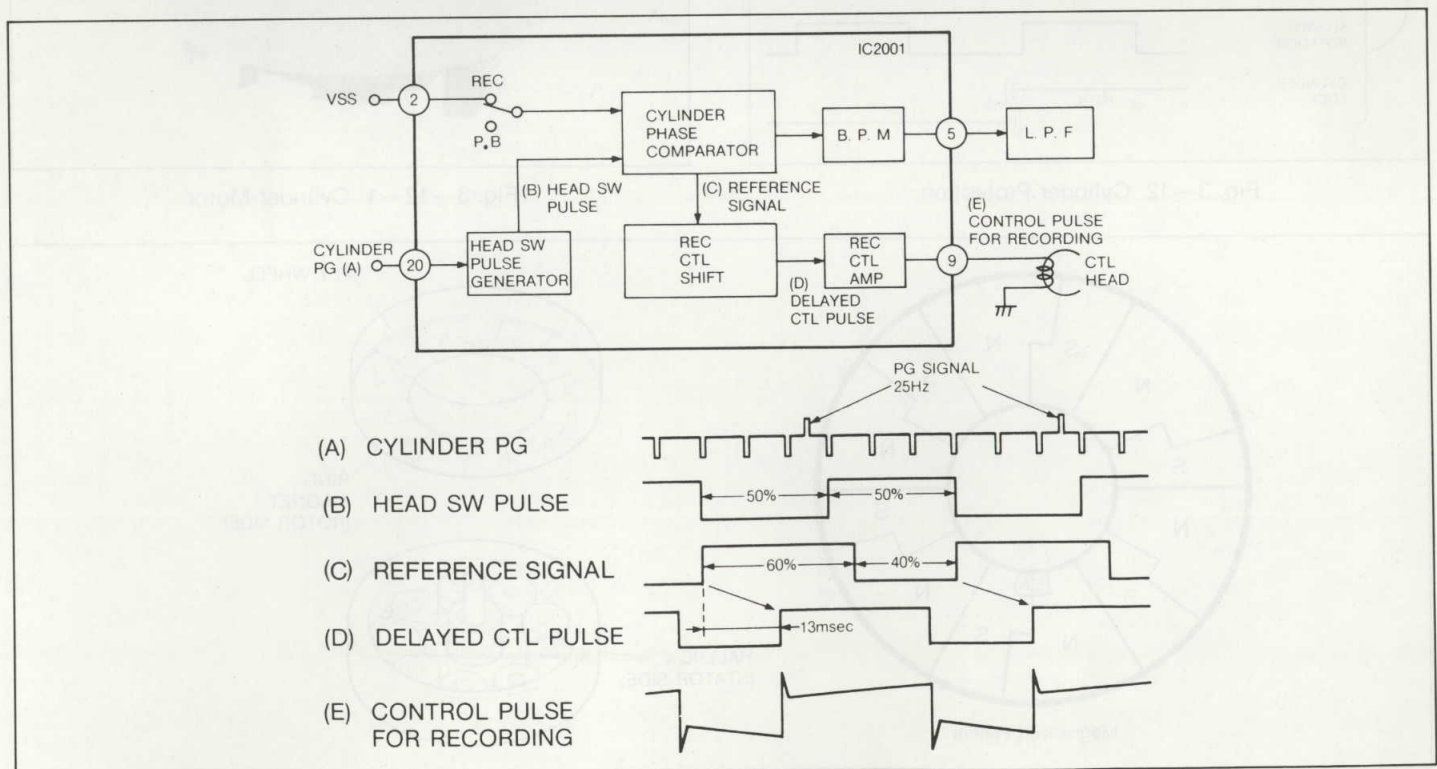

Fig. 3—11 Producing the Control Pulse
The cylinder motor drive circuit produces cylinder PG/FG signal at pin 19 of IC2502 and applies it to pin 20 of IC2001. From this signal, the head switching pulse is produced by being extracted only the cylinder PG (25Hz) signal, and more detailed explanation will be given later. (Refer to the waveform (A) and (B) in Fig. 3—11) Then, this head switching pulse is applied to cylinder phase comparator, and the reference signal with 60% – 40% duty cycle is produced. (Refer to the waveform (C) in Fig. 3—11). This signal is next delayed (waveform (D)) and sent to REC, CTL, AMP to produce the final control pulse for recording. (Refer to the waveform (E) in Fig. 3—11.)